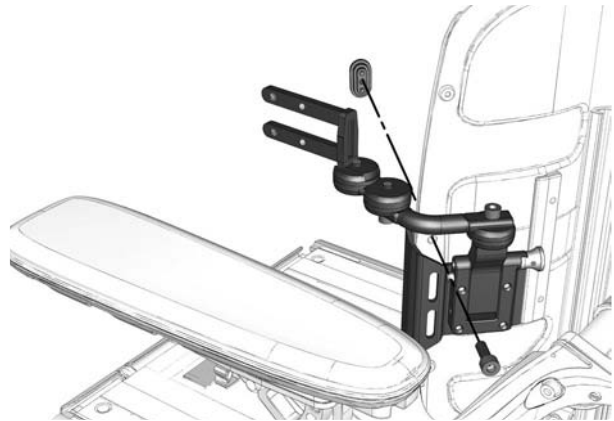

Fig. 3. Mount the trunk support using the screw and nut previously removed.
4. Mount the trunk support using the screw and nut previously removed. Fig. 3.